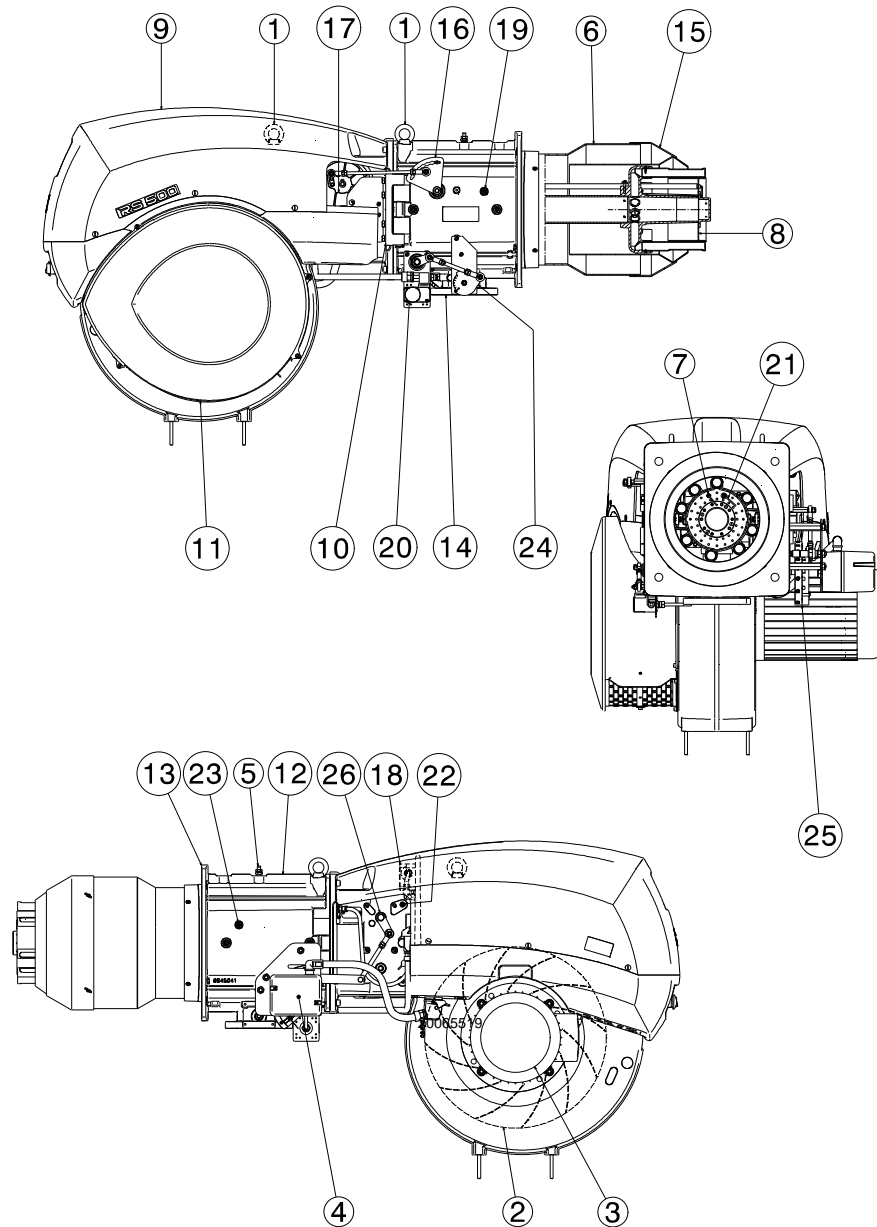

Fig. 4
- (1) Reference conditions: Ambient temperature 20°C - Gas temperature 15°C - Barometric pressure 1013 mbar - Altitude 0 m a.s.l.
(2) Pressure at the test point of the pressure switch (20)(Fig. 4) with zero pressure in the combustion chamber and at maximum burner output.
(3) Sound pressure measured in manufacturer's combustion laboratory, with burner operating on test boiler and at maximum rated output. The sound power is evaluated, in line with the regulations, on a spherical surface centred on the burner and with a radius of 1 metre.